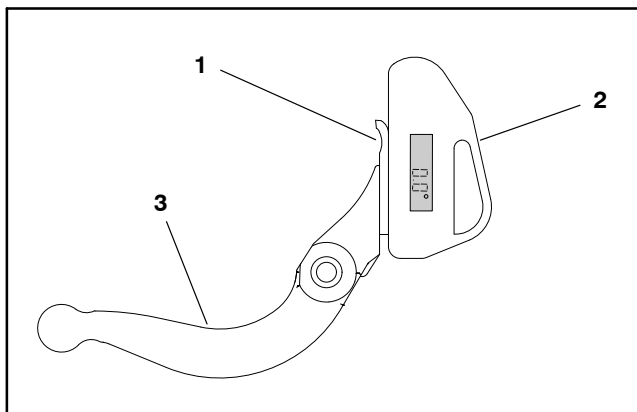

Figure 15
1. Place the angle indicator on the bottom side of the bedknife with the digital display facing you as shown (Fig. 15).